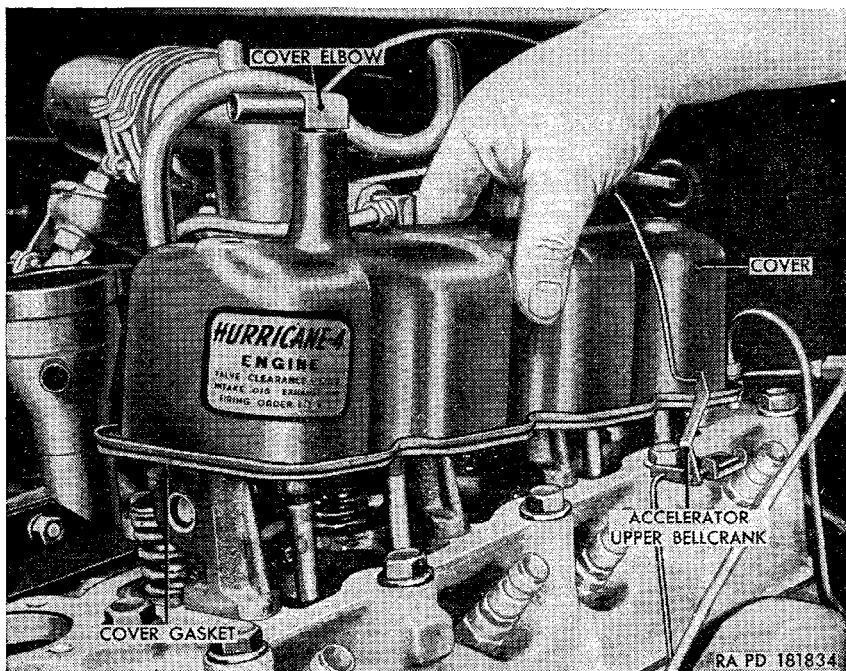

Figure 41. Removing rocker arm cover assembly.
washer from each stud. Lift the rocker arm cover (fig. 41) off the cylinder head. Remove and discard the rocker arm cover gasket.
- (3) Coat a new rocker arm cover gasket with plastic-type gasket cement and position the gasket in place on the bottom of the rocker arm cover (fig. 41).
- (5) Slip the free end of the oil filler tube-to-rocker arm cover hose over the end of the rocker arm cover elbow (fig. 41). Secure the hose to the elbow with the hose clamp.